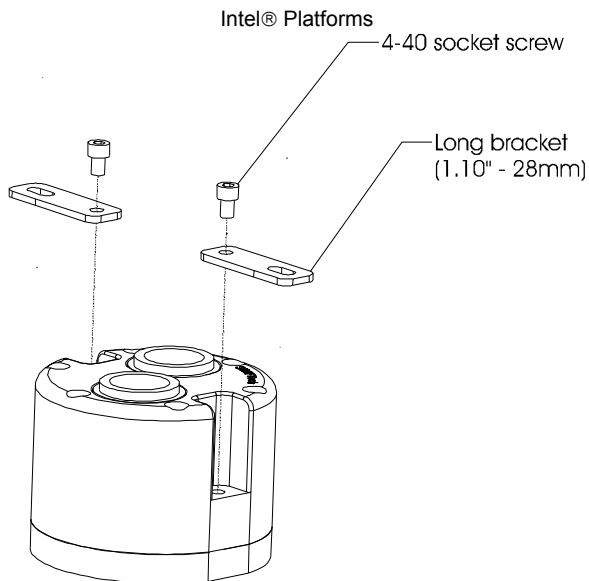

Figure 1
Install your block onto the graphics card, as shown in Figure 1 or Figure 2 (p.1) according to your application. A “finger –tight” lock is sufficient when tightening the spring retention assemblies. Over-tightening will squish the nylon screw spacer body, and result in uneven pressure over the GPU.
a. **Prepare two pieces of tubing** of sufficient length to connect to the rest of your circuit. The cuts must be square as shown in figure 1 or leaks may occur: